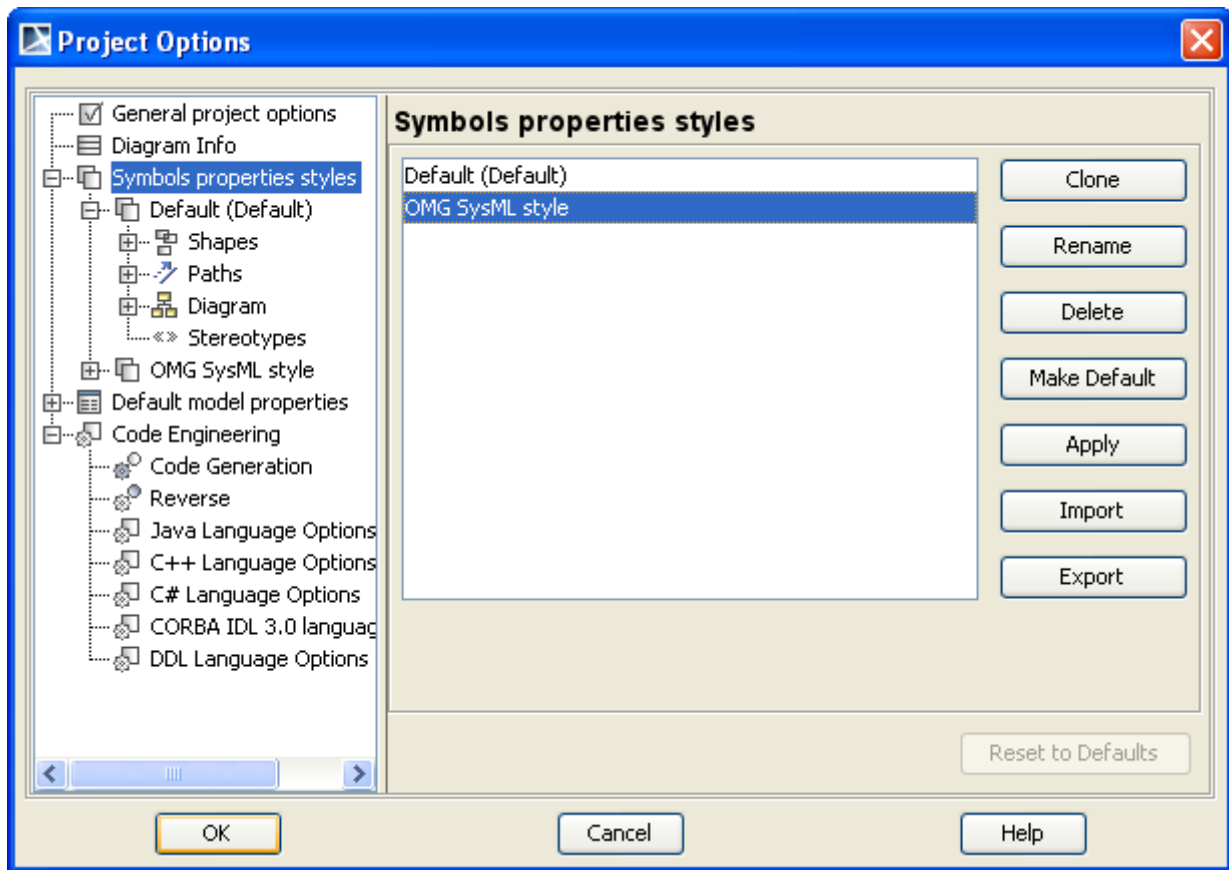
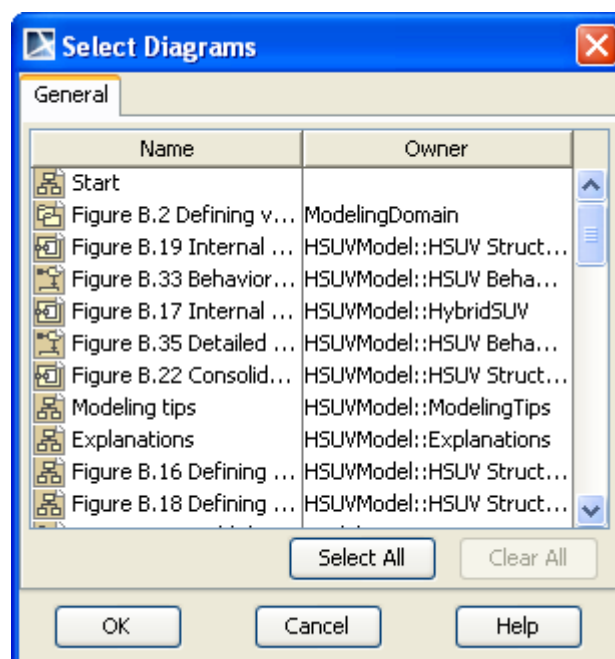

Figure 6 -- Project Options Dialog - Set Symbol Properties Style
Figure 8 -- Select Diagrams Dialog - Applying OMG SysML Style to Diagrams
4. Select **Symbols properties styles** node (on the left), and then select the **OMG SysML style** in the **Symbols properties styles** panel (on the right), as displayed in Figure 6.
4. Select **Symbols properties styles** node (on the left), as displayed in Figure 6.
If the **OMG SysML style** is available in the **Symbols properties styles** panel (Figure 6), just select it.
8. If you would like to also apply such style to existing SysML diagram(s), open the **Project Options** dialog (Figure 6) again, select the style in the **Symbols properties styles** panel, and then press **Apply** button. The **Select Diagrams** dialog will then display (Figure 8).